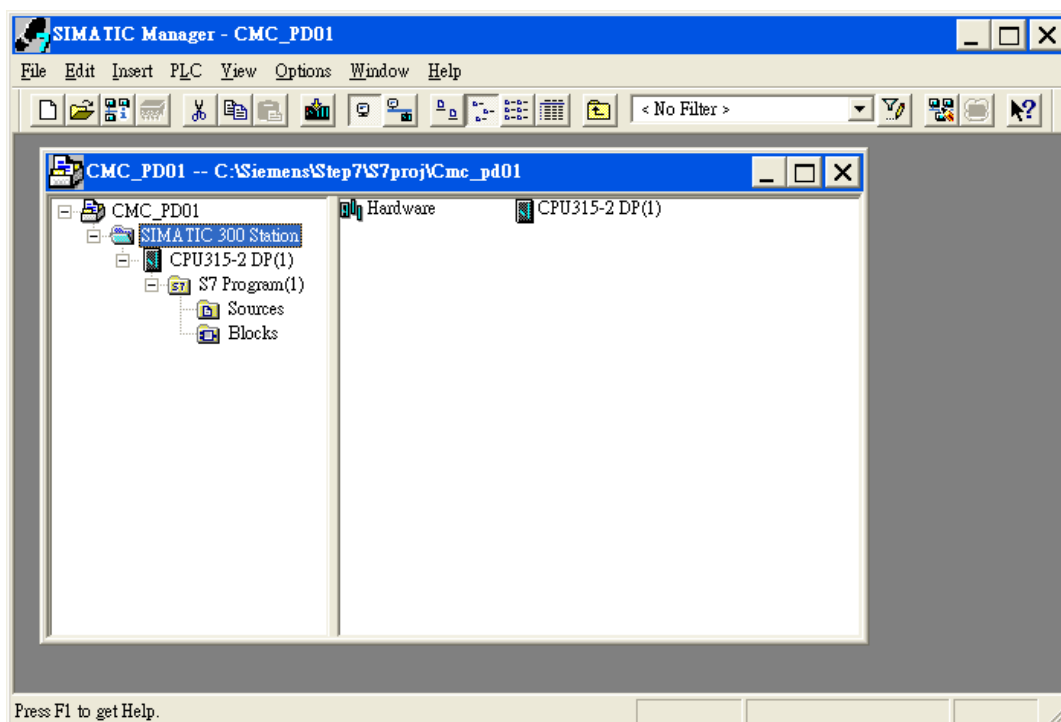

Figure 7-9
1. Select "SIMATIC 300 Station" in the project created. See Figure 7-9. Double click "Hardware", and a new window (HW-Config) will appear.